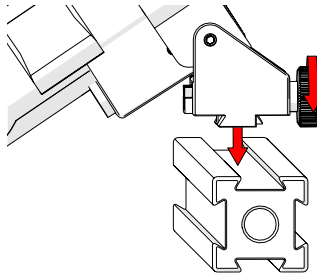

Fig. 144 - Mount on frame bar
1. Loosen the battery powered optical guide knob (*Fig. 144*) and mount the optical guide to the frame bar.